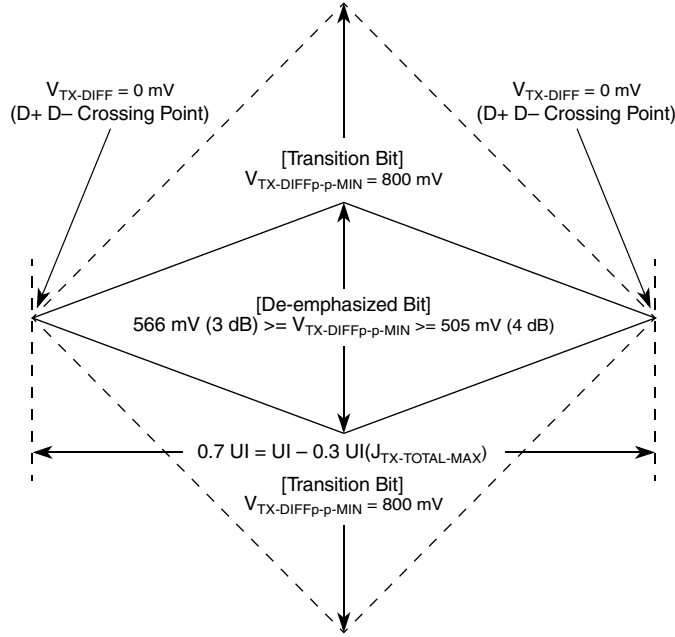
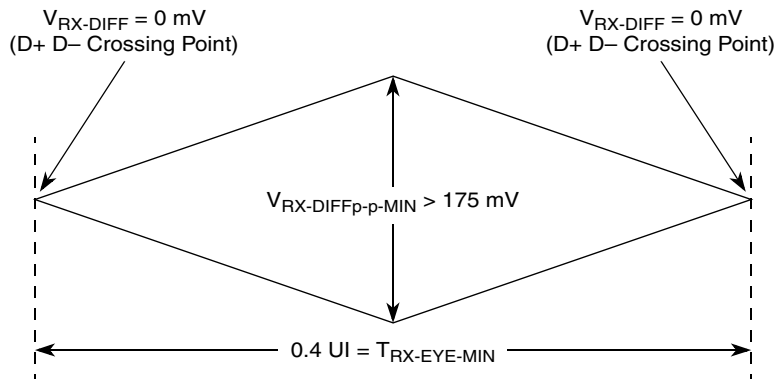
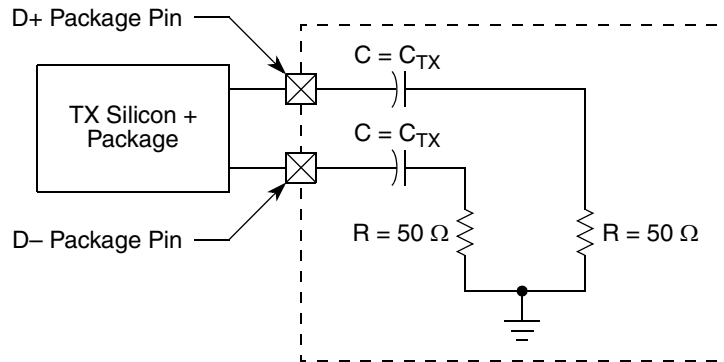

Figure 46. Minimum Transmitter Timing and Voltage Output Compliance Specifications
Figure 47. Minimum Receiver Eye Timing and Voltage Compliance Specification
Figure 48. Compliance Test/Measurement Load
2. Specified at the measurement point into a timing and voltage compliance test load as shown in Figure 48 and measured over any 250 consecutive Tx UIs. (Also refer to the transmitter compliance eye diagram shown in Figure 46.)
4. The transmitter input impedance will result in a differential return loss greater than or equal to 12 dB and a common mode return loss greater than or equal to 6 dB over a frequency range of 50 MT/s to 1.25 GHz. This input impedance requirement applies to all valid input levels. The reference impedance for return loss measurements is 50 Ω to ground for both the D+ and D– line (that is, as measured by a vector network analyzer with 50- Ω probes, see Figure 48). Note that the series capacitors, C_{TX} , is optional for the return loss measurement.
5. Measured between 20%–80% at transmitter package pins into a test load as shown in Figure 48 for both V_{TX-D+} and V_{TX-D-} .
The Tx eye diagram in Figure 46 is specified using the passive compliance/test measurement load (see Figure 48) in place of any real PCI Express interconnect + Rx component. There are two eye diagrams that must be met for the transmitter. Both diagrams must be aligned in time using the jitter median to locate the center of the eye diagram. The different eye diagrams differ in voltage depending on whether it is a transition bit or a de-emphasized bit. The exact reduced voltage level of the de-emphasized bit is always relative to the transition bit.
2. Specified at the measurement point and measured over any 250 consecutive UIs. The test load in Figure 48 should be used as the Rx device when taking measurements (also refer to the receiver compliance eye diagram shown in Figure 47). If the clocks to the Rx and Tx are not derived from the same reference clock, the Tx UI recovered from 3500 consecutive UI must be used as a reference for the eye diagram.
4. The receiver input impedance will result in a differential return loss greater than or equal to 10 dB with the D+ line biased to 300 mV and the D– line biased to –300 mV and a common mode return loss greater than or equal to 6 dB (no bias required) over a frequency range of 50 MT/s to 1.25 GHz. This input impedance requirement applies to all valid input levels. The reference impedance for return loss measurements for is 50 Ω to ground for both the D+ and D– line (that is, as measured by a vector network analyzer with 50- Ω probes, see Figure 48). Note that the series capacitors, C_{TX} , is optional for the return loss measurement.
The Rx eye diagram in Figure 47 is specified using the passive compliance/test measurement load (see Figure 48) in place of any real PCI Express Rx component. In general, the minimum receiver eye diagram measured with the compliance/test measurement load (see Figure 48) is larger than the minimum receiver eye diagram measured over a range of systems at the input receiver of any real PCI Express component. The degraded eye diagram at the input receiver is due to traces internal to the package as well as silicon parasitic characteristics that cause the real PCI Express component to vary in impedance from the
compliance/test measurement load. The input receiver eye diagram is implementation specific and is not specified. Rx component designer should provide additional margin to adequately compensate for the degraded minimum receiver eye diagram (shown in Figure 47) expected at the input receiver based on an adequate combination of system simulations and the return loss measured looking into the Rx package and silicon. The Rx eye diagram must be aligned in time using the jitter median to locate the center of the eye diagram.
The reference impedance for return loss measurements is 50 Ω to ground for both the D+ and D− line (that is, as measured by a Vector Network Analyzer with 50 Ω probes—see Figure 48). Note that the series capacitors, C_{PEACCTX}, are optional for the return loss measurement.
The AC timing and voltage parameters must be verified at the measurement point, as specified within 0.2 inches of the package pins, into a test/measurement load shown in Figure 48.